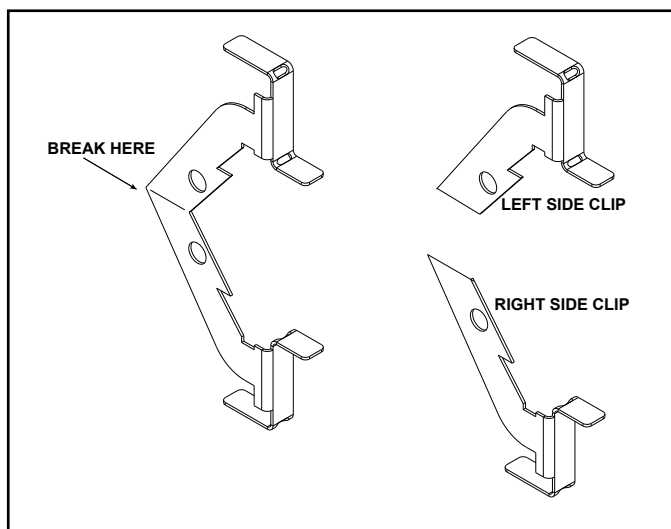

Figure 4.14 Glass Retaining Clip Separation
**Note:** The glass retaining clips ship from the factory as a pair. If using glass retaining clips for the first time, they will need to be broken apart. See Figure 4.14.